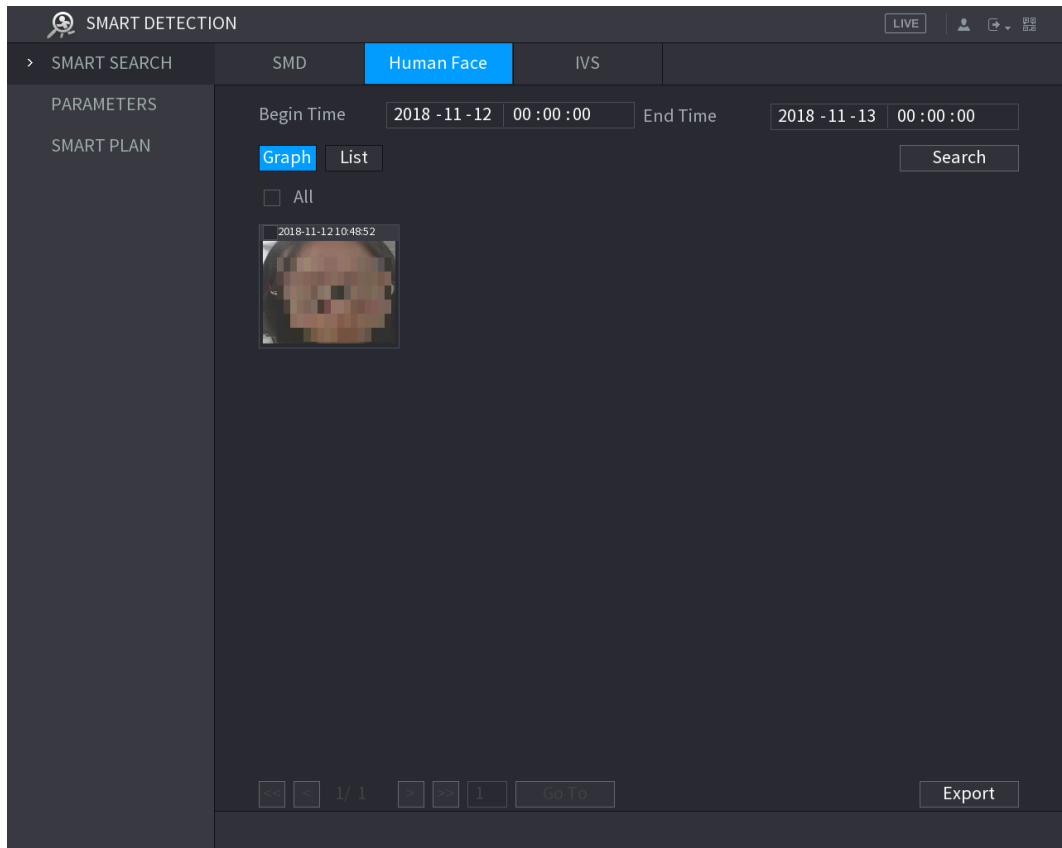
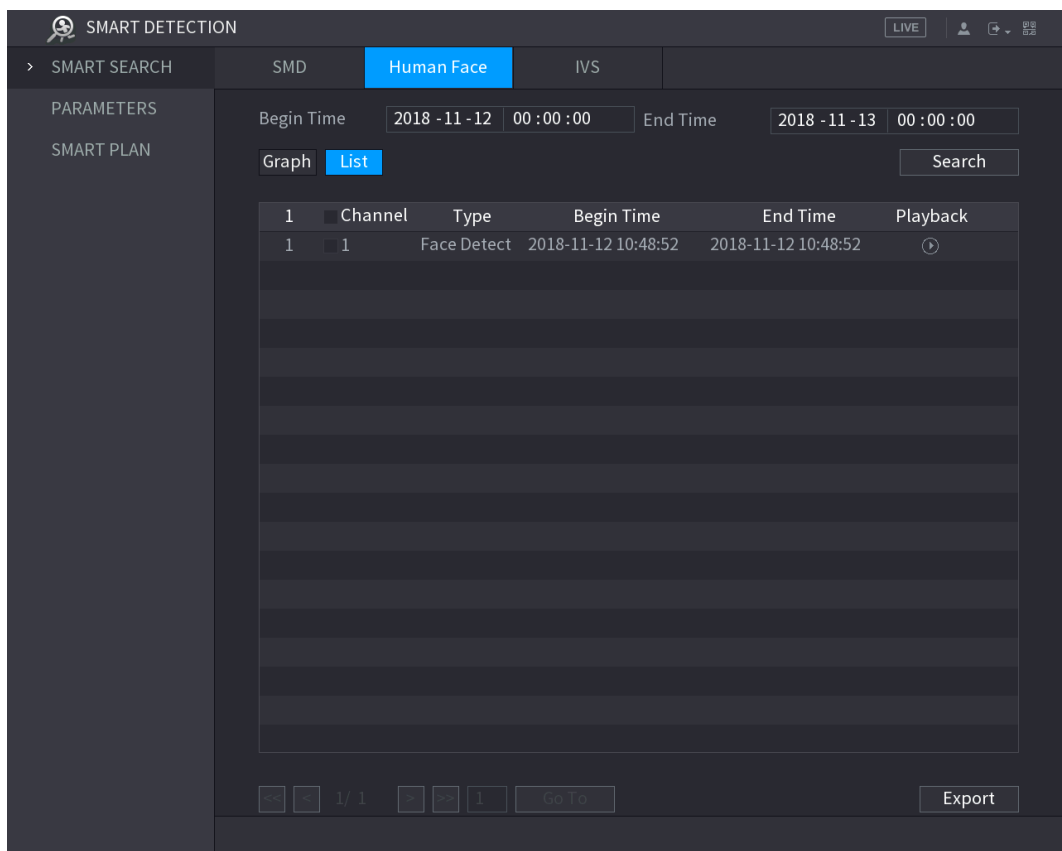

Figure 5-145
Figure 5-146
The faces searched in the defined period are displayed. See Figure 5-145 or Figure 5-146.
Step 1 On the displayed faces as shown in Figure 5-145, double-click on the face.